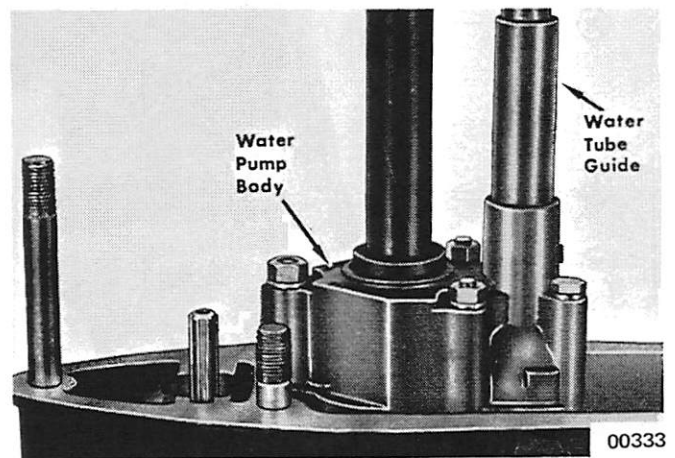

Figure 6. Water Pump Assembly Installed
8. Slide water pump body assembly over drive shaft and impeller. (Figure 6)
11. Place plastic water tube guide in water pump body recess. (Figure 6) Install centrifugal slinger onto drive shaft.